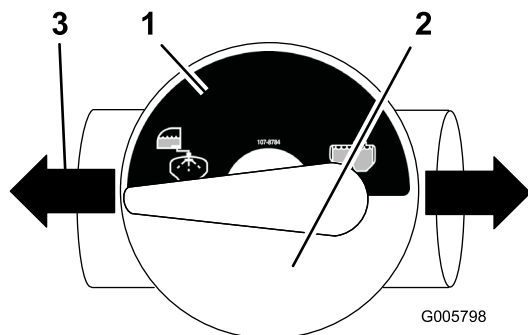

Figure 11
2. Install the decal number 107-8784 onto the valve face in the correct orientation (Figure 11). Make sure the decal aligns with the flow of the valve.